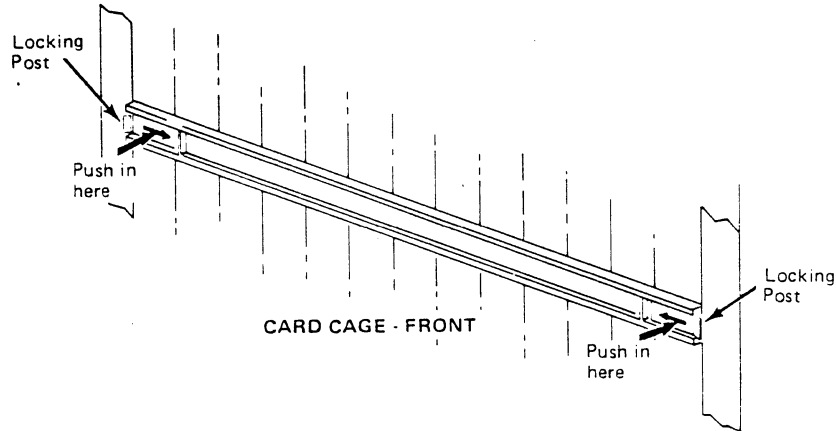

Figure 6-5. Removal of Card Retainer Bar
6. Remove the card retainer bar (PN 6431234) in the card cage by pressing the center of the locking posts in with a blunt object (such as a pencil or pen). Slide the locking posts toward the center of the bar (Figure 6-5).